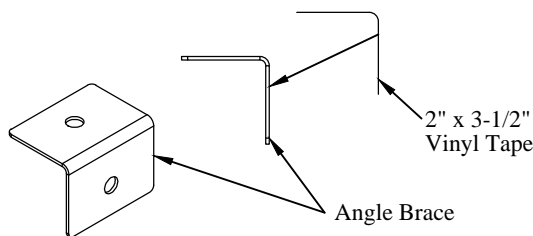

Figure 9: Vinyl tape locations.
3. **Apply** the vinyl tape to the angle braces as shown (Figure 9)